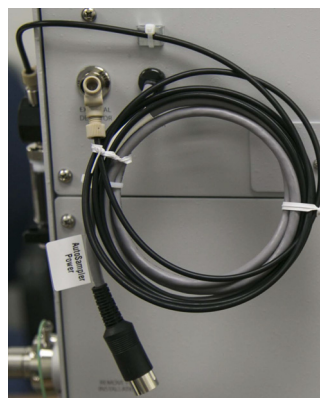

Figure 2-24 Power cable on the ACCQPrep
15. Power for the AutoSampler is provided by the ACCQPrep. On the rear panel of the ACCQPrep, the power cord is coiled and retained (Figure 2-24). Remove the retainer and route the power cable to the mating connector on the AutoSampler Module.